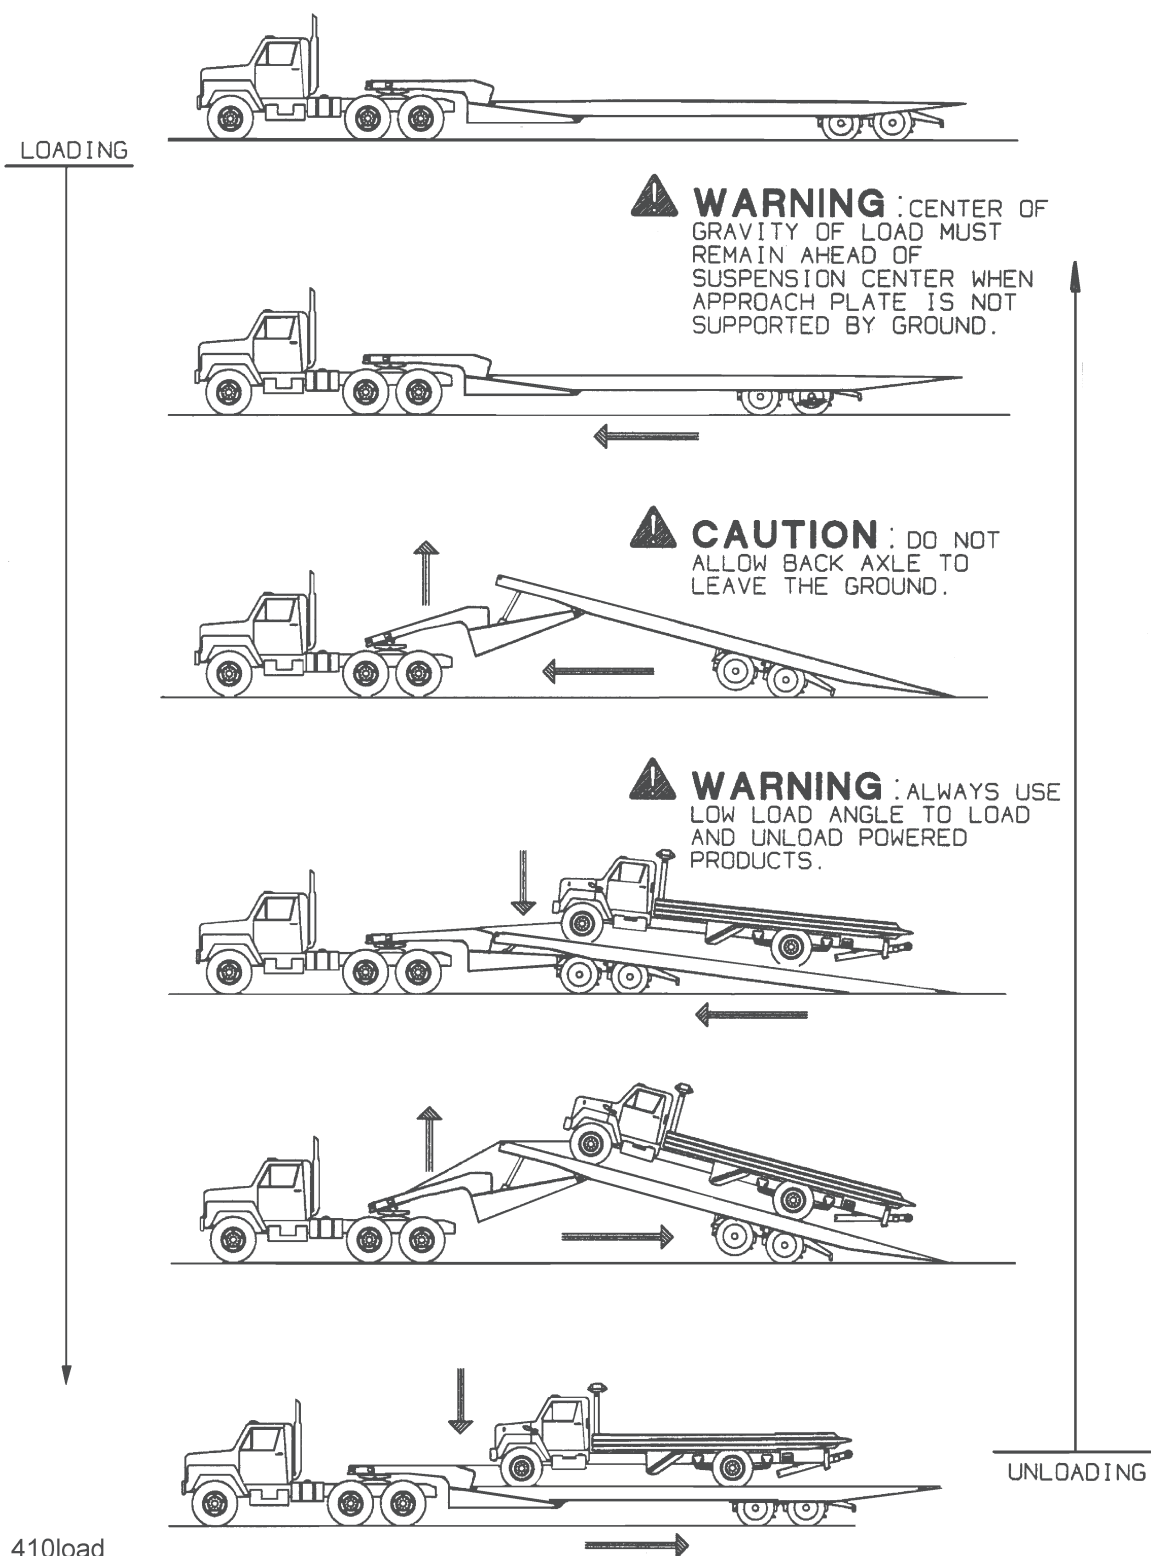

Figure 3-8: Steps for Loading and Unloading
2. Park the tractor/semitrailer in a straight line on level even surface. Set the tractor brakes and release the semitrailer brakes (*See Figure 3-8.*)
2. Park the tractor/semitrailer in a straight line on a level even surface (See Figure 3-8.) Set the tractor brakes and release the semitrailer brakes.